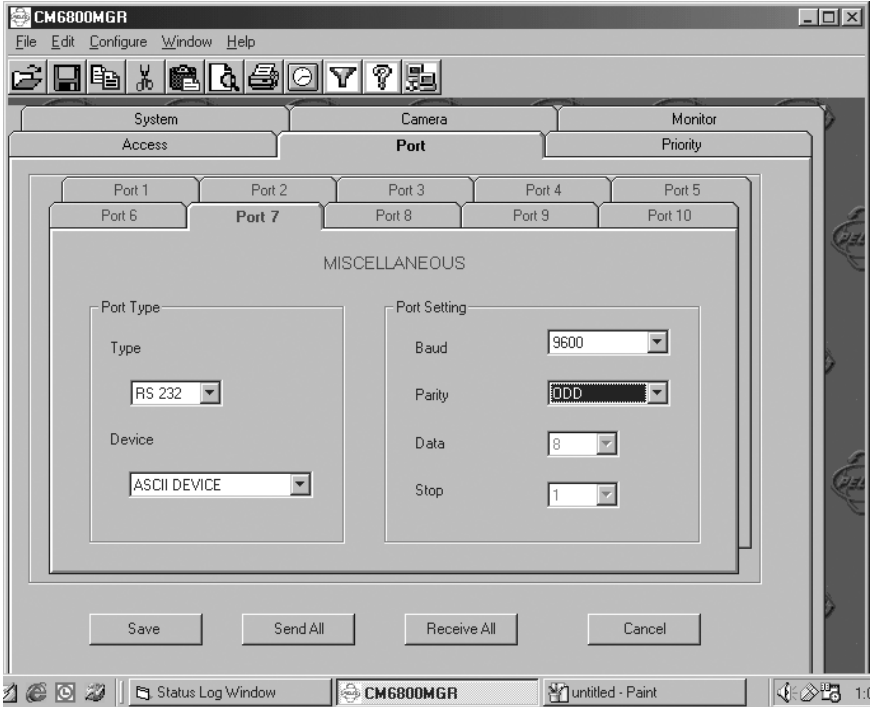

Figure 50. Manager Screen
- Ports 7 and 8 can be set to ASCII and RS-232 by using the CM6800 manager program (refer to Figure 50) or by using a CM6800 menu (refer to Figure 51).